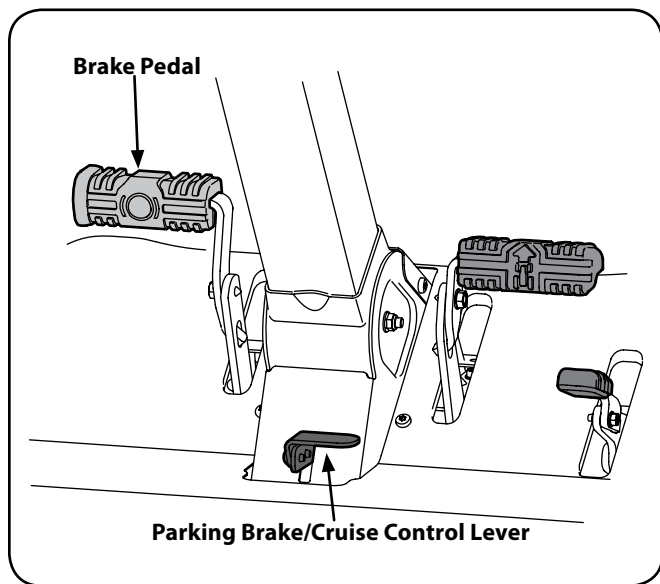

Figure 12
2. Engage the parking brake by pressing forward on the brake pedal (○), then press down on the parking brake/cruise control lever and then release the brake pedal (○). Refer to Figure 12.
3. Make certain the PTO switch is in the disengaged (down) position. Refer to Figure 12.